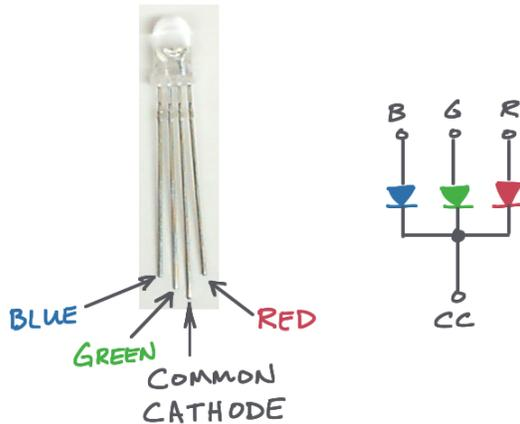

Figure 2.3: RGB LED pins and schematic diagram.
- Blink the green and blue LEDs of the RGB LED using the same LabVIEW code as the railroad crossing signal; refer to Figure 2.3 on the next page for the RGB LED pinout diagram. Use the current-sourcing interface circuit.